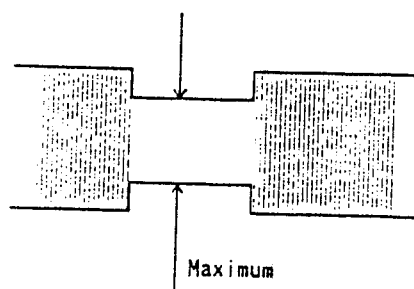

Fig. 2-9
3. Adjust the X value adjustment nut © for maximum PB FM signal for CH1 by using F6-N test tape (Refer to Fig. 2-9)